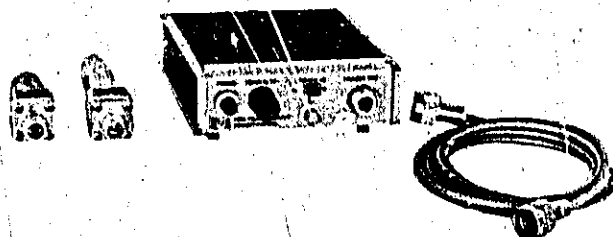

Figure 1. Model 1105A Pulse Generator and
2. The Model 1105A Pulse Generator and associated Tunnel Diode Mounts (Figure 1) are combined for use in checking the dynamic response of wideband amplifiers, oscilloscopes, and transmission lines. The specifications of the Model 1105A and applicable Tunnel Diode Mount combinations are listed in Table 1.